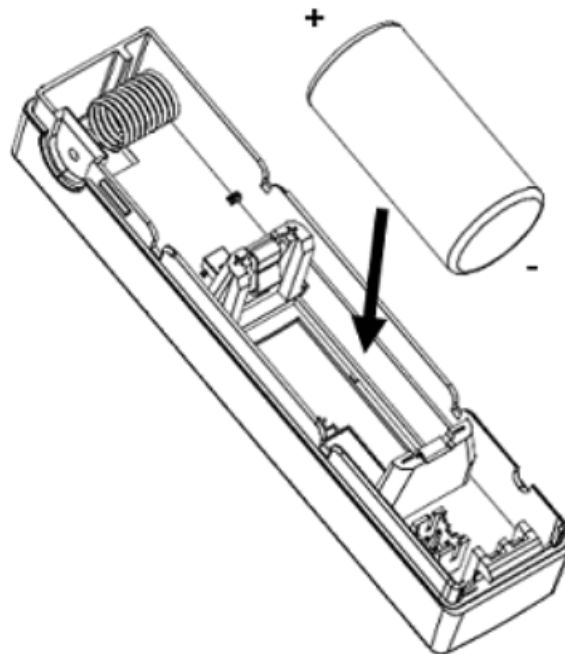

Figure 4
3. Place a battery as instructed in Figure 4 and wait until the Red / Green LED stops blinking.